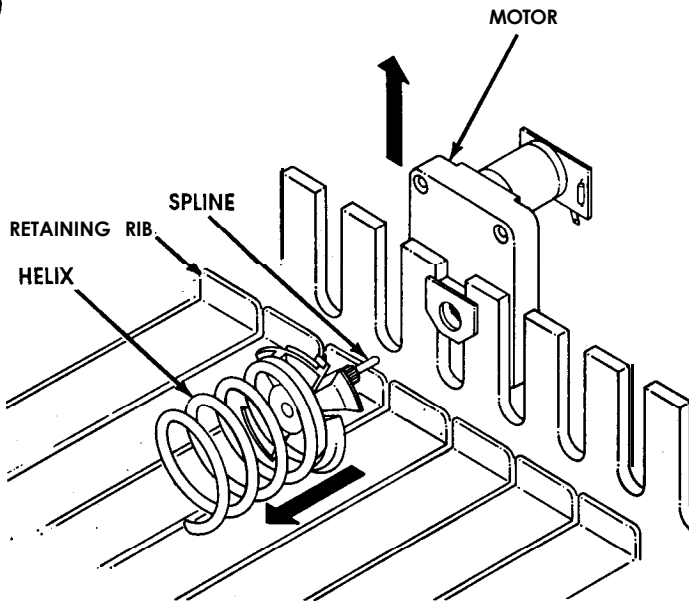

Figure 12
3. Raise the motor slightly and pull forward on the auger until it separates from the motor. **See Figure 12.**